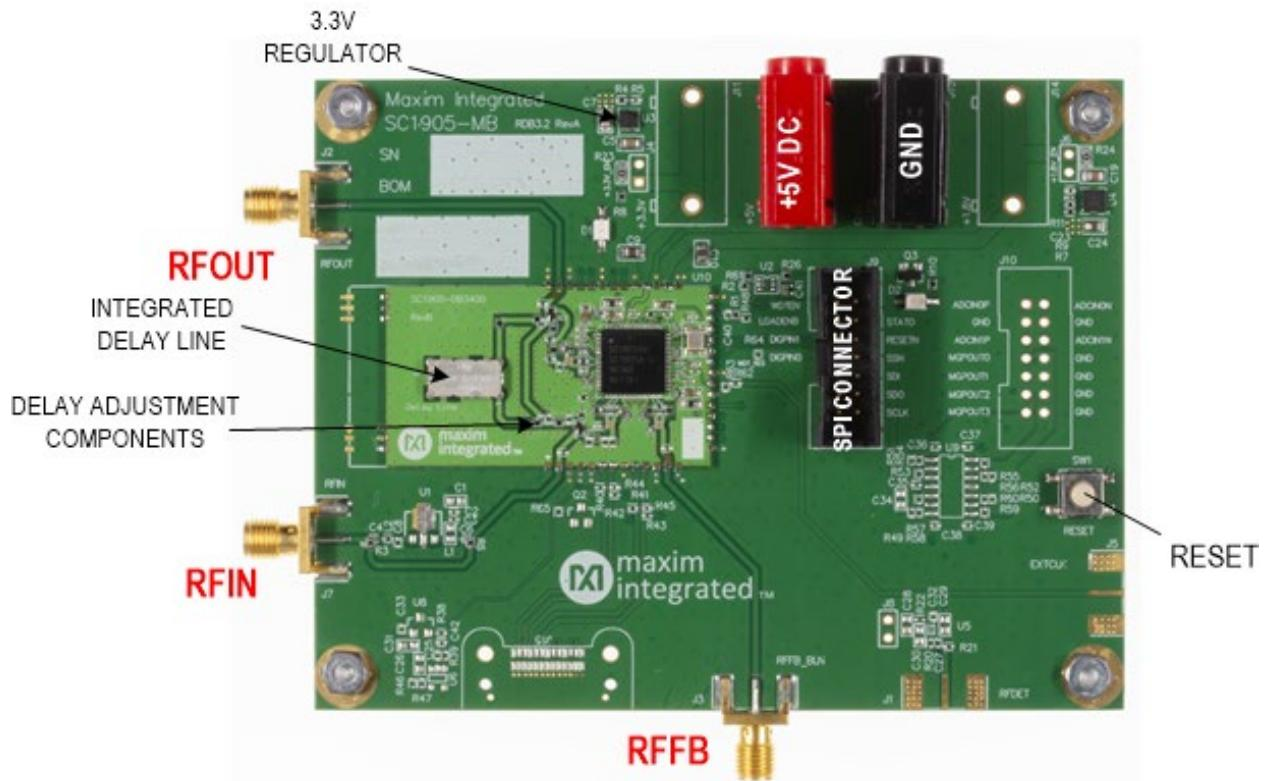

Figure 4. SC1905 reference board and motherboard.
The SC1905 Reference Daughter Board (DB) is mounted on a larger motherboard (MB) which includes DC and RF connectors and supply voltage regulators (Figure 4).